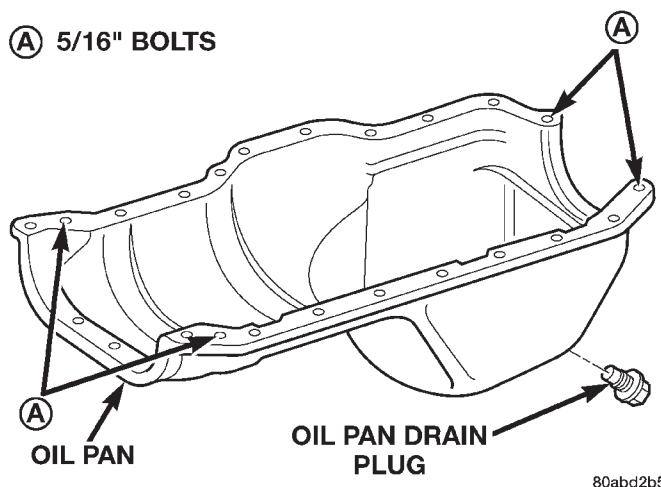

Fig. 61 Position of 5/16 inch Oil Pan Bolts
(5) Slide the one-piece gasket over the dowels and onto the block and timing case cover.
(6) Position the oil pan over the dowels and onto the gasket.
(7) Install the 1/4 inch oil pan fasteners. Tighten these fasteners to 9.5 N·m (84 in. lbs.) torque. Install the 5/16 inch oil pan fasteners (Fig. 61). Tighten these fasteners to 15 N·m (132 in. lbs.) torque.
(8) Remove the dowels. Install the remaining 1/4 inch oil pan fasteners and tighten to 9.5 N·m (84 in. lbs.).
(9) Lower the engine until it is properly located on the engine mounts.
(10) Install the through bolts and tighten the nuts.
(11) Lower the jack stand and remove the piece of wood.
(12) Install the flywheel and torque converter housing access cover.
(13) Install the engine starter motor.
(14) Connect the exhaust pipe to the hanger and to the engine exhaust manifold.
(15) Install transmission oil cooling lines (if equipped) and oxygen sensor wiring supports that attach to the oil pan studs.
(16) Install the oil pan drain plug (Fig. 61). Tighten the plug to 34 N·m (25 ft. lbs.) torque.
(17) Lower the vehicle.
(18) Connect negative cable to battery.
(19) Fill the oil pan with engine oil to the specified level.